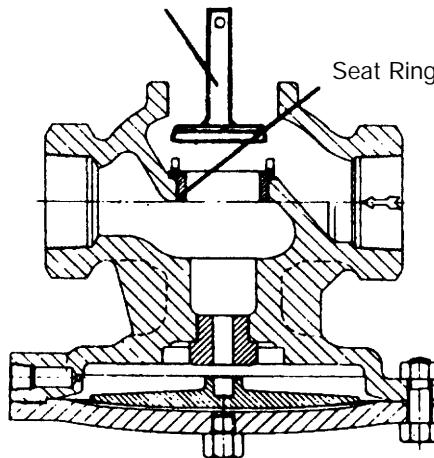

Figure 6 — Removing Seat Ring
4. Do not remove seat ring unless remachining or replacement is necessary. If removal is necessary, see Figure 6 with accompanying instructions.
To remove seat rings, use the special wrench which is available on request. See Figure 6.
Position seat ring wrench and socket wrench as shown in Figure 6. Hold tightly against seat ring. Tap handle of socket with hammer to loosen seat ring. Then unscrew seat ring.